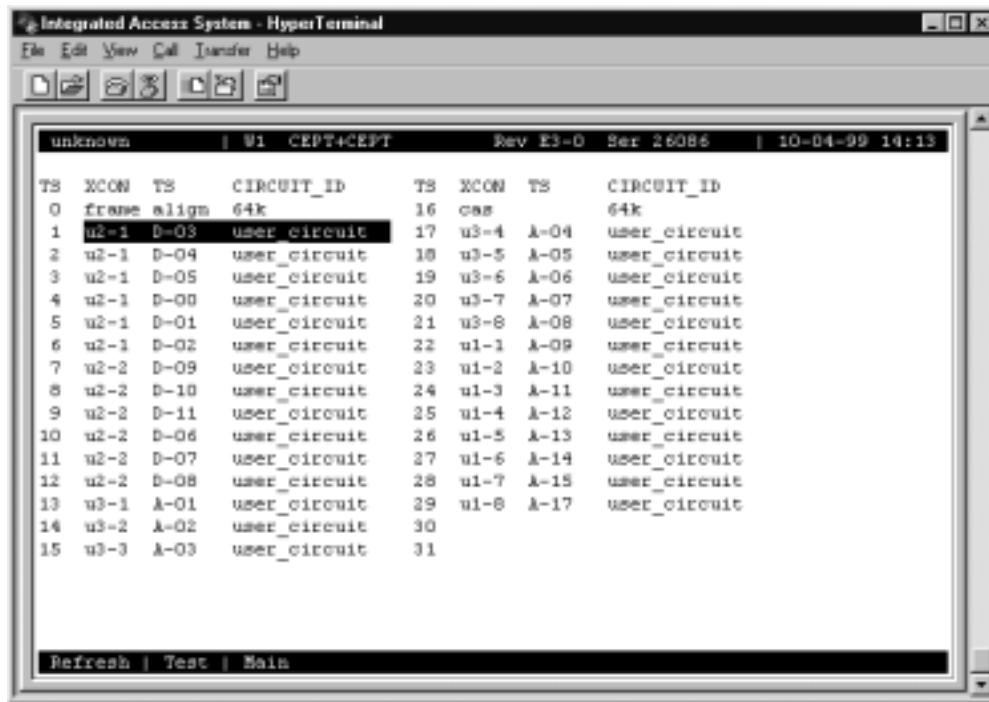

Figure 4-61. Typical Time Slot Screen in E1 Operation
2. Type “x” (**Xcon**) to bring up the time slot screen (see Figure 4-60 for T1 operation and Figure 4-61 for E1 operation).
For E1 transmission (Figure 4-61), time slot 0 and 16 are not available for assignment on either the HSU table or the voice card time slots. Like T1 operation in *d/i* mode, unspecified time slots are **automatically** assigned to corresponding slots on the other WAN port on the same card.